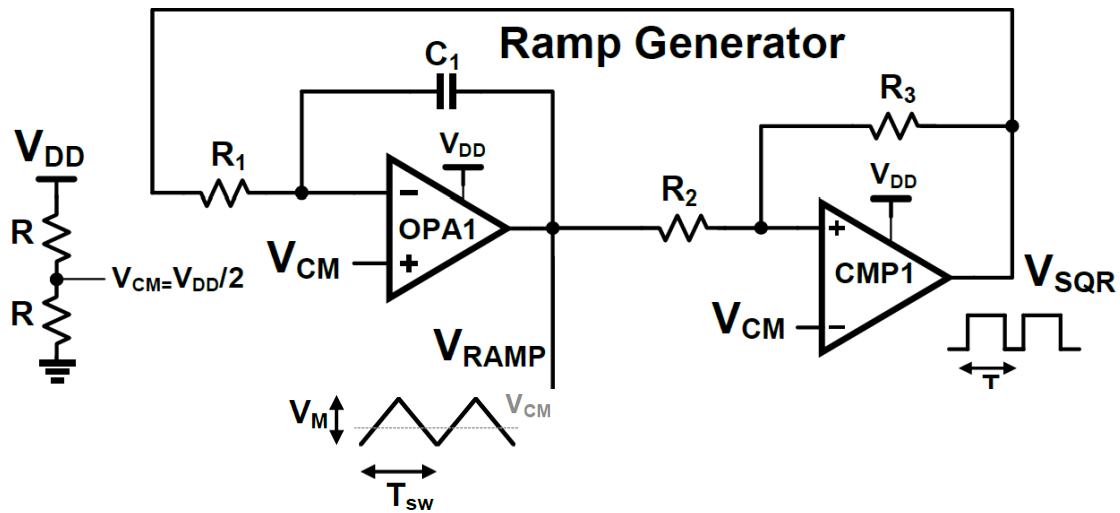

Figure 1 Schematic diagram of a ramp generator.
Ramp or triangle wave generator is actually an oscillator which is designed using opamp-RC integrator and Schmitt trigger. Figure 1 shows schematic diagram of a ramp generator.
1. For the ramp generator circuit in Figure 1, derive the expression for ramp amplitude (Equation (1)) and frequency (Equation (2)).
2. Simulate the ramp generator circuit shown in Figure 1 and verify the expressions in Equation (1) and Equation (2). Observe the effect of variation in R_1 , R_2 , R_3 and C_1 on ramp amplitude and frequency.